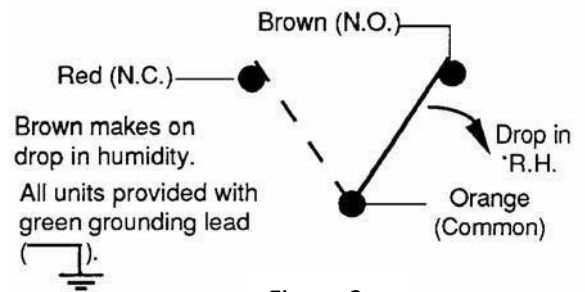

Figure 2
6. Remove the Cover from the unit, and referring to figure 2, wire the units in accordance with the application's requirements.